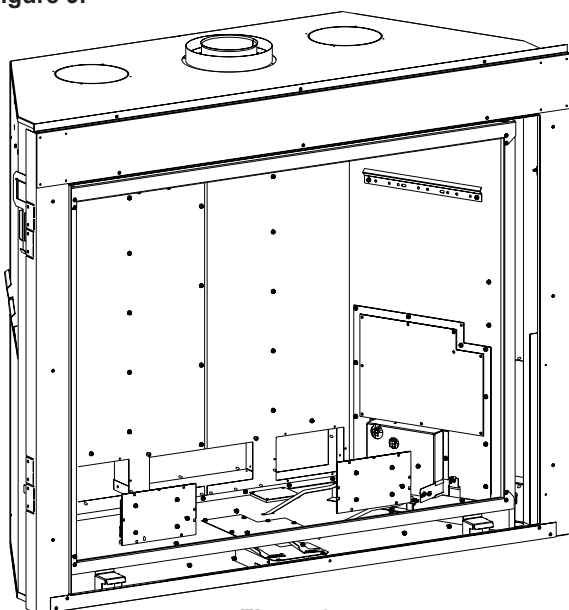

Figure 9
4. Remove Blower Brackets by taking out (6) screws each. See Figure 9.